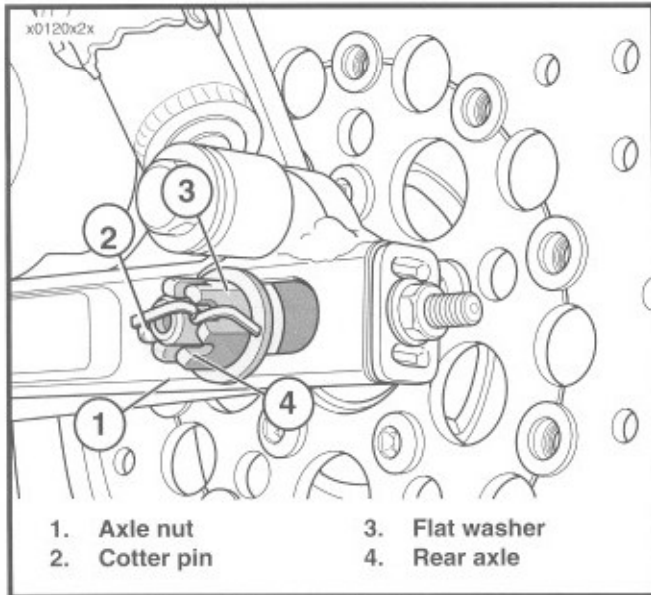

Figure 2-8. Rear Wheel Mounting
3. See Figure 2-8. Remove cotter pin (2), axle nut (1) and flat washer (3).
3. See Figure 2-8. Install flat washer (3) and nut (1) on end of axle (4). Tighten axle nut to 60-65 ft-lbs (81-88 Nm) torque.
7. See Figure 2-8. Install cotter pin (2) onto rear axle nut.